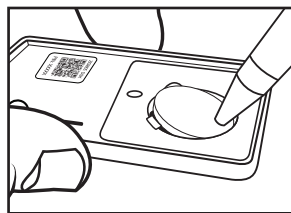

FIGURE 5
3. While securely holding the sensor on a flat surface, press down on the lower edge of the battery with a pen (see Figure 5).